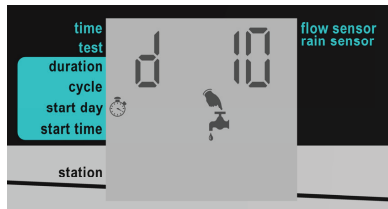

Figure 19: Start Day Screen Example
1. From the Main screen, press **C** until the Start Day screen appears (Figure 19).
2. Press **+** and **-** to increase and decrease the number of days. In Figure 19, the value is set to 10 days. The maximum supported value is 30 days.